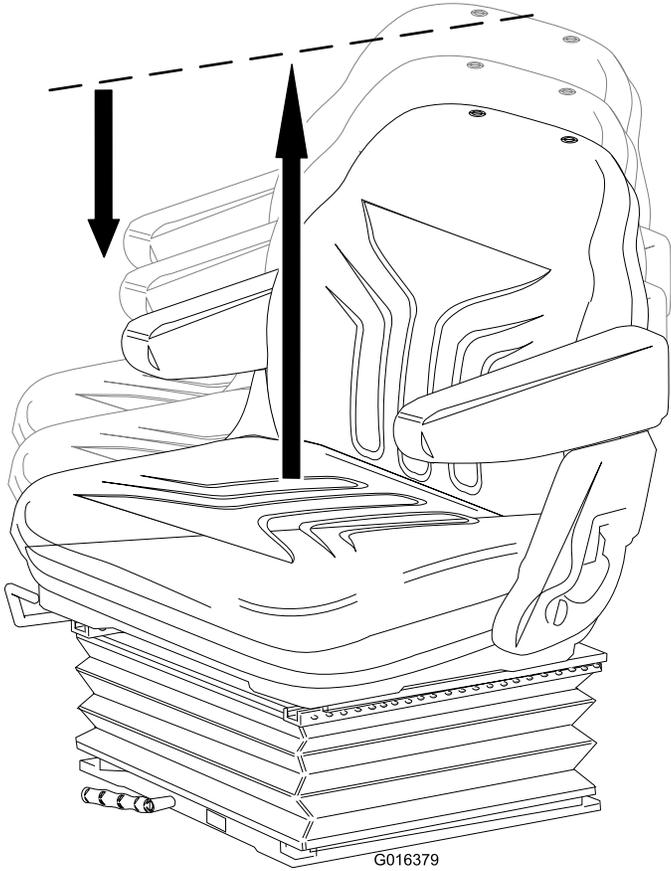

Figure 24
- **Height adjustment:** Manually lift the seat for incremental height adjustment. To lower the seat, lift it beyond the highest setting, then allow it to drop to the lowest setting (Figure 24).